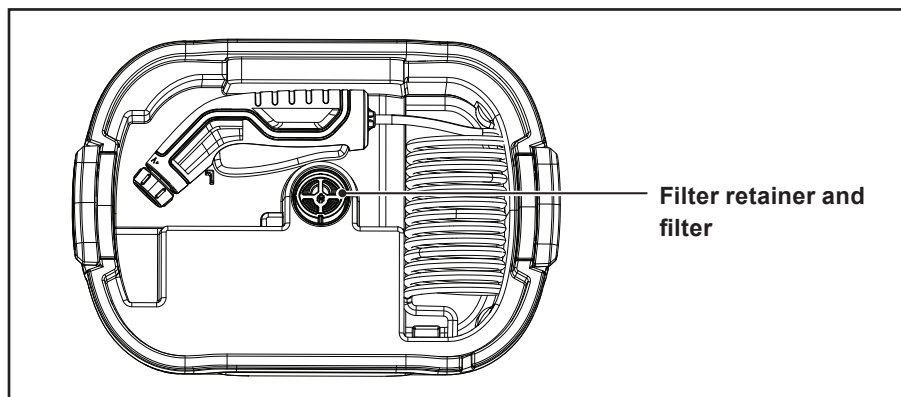

Fig. 3
1. Carefully remove the filter retainer and filter from the suction connection (Fig. 3).